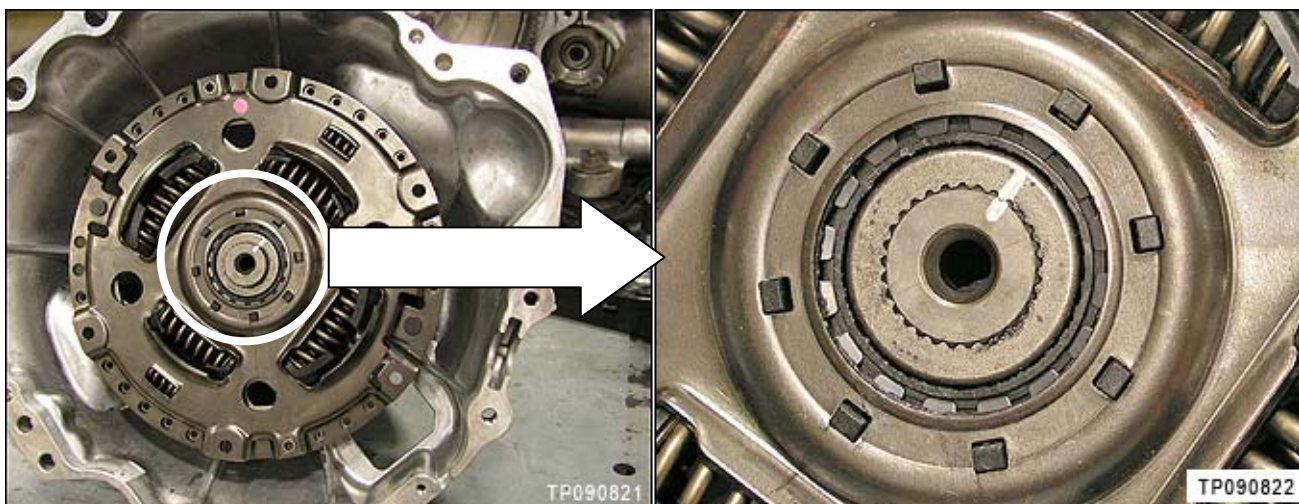

Figure 9
13. On the new flywheel housing / vibration damper – use paint to mark the damper and center shaft as shown in Figure 9.